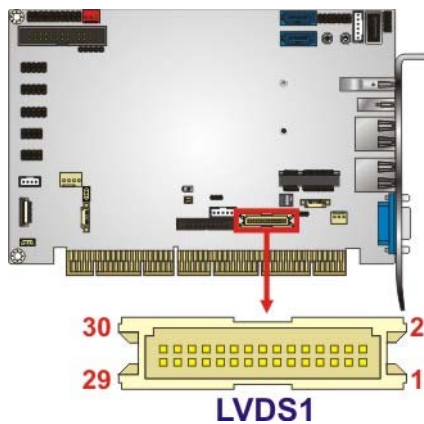

Figure 3-15: LVDS Connector Location
- CN Location:** See **Figure 3-15**